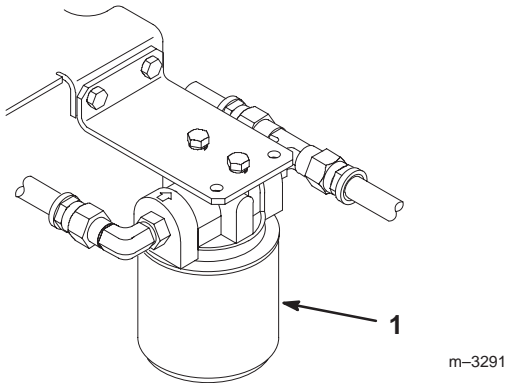

Figure 50
3. Place drain pan under filter, remove the old filter and wipe the filter adapter gasket surface clean (Fig. 50).